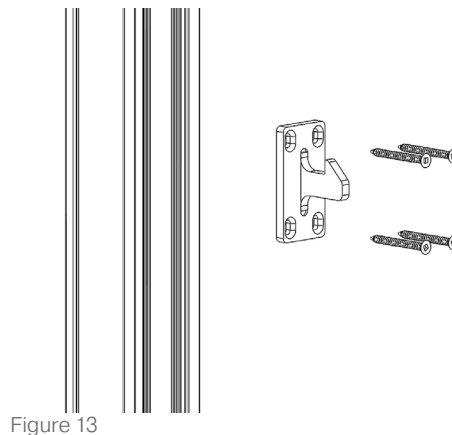

Figure 13
21. Drill four (4) 3/16" clearance holes at the marked locations of the strike plate. Anchor the lock strike to the jamb with #10 x 2-1/2" PH Flat Head screws. Shim as needed to avoid bowing the frame. See **Figure 13**.